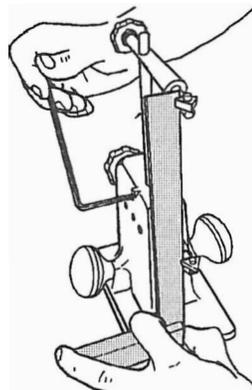

Fig. B-7
5. Replace the follower support on the follower upright (50). Tighten the adjusting knob (44). Place a precision square against both the cutter support and follower support. Use a 5/32" Allen wrench to slightly loosen the setscrew (41) which secures the upright (50), as seen in Fig. B-7. Adjust the upright so the follower support is aligned with the cutter support, then tighten the setscrew.